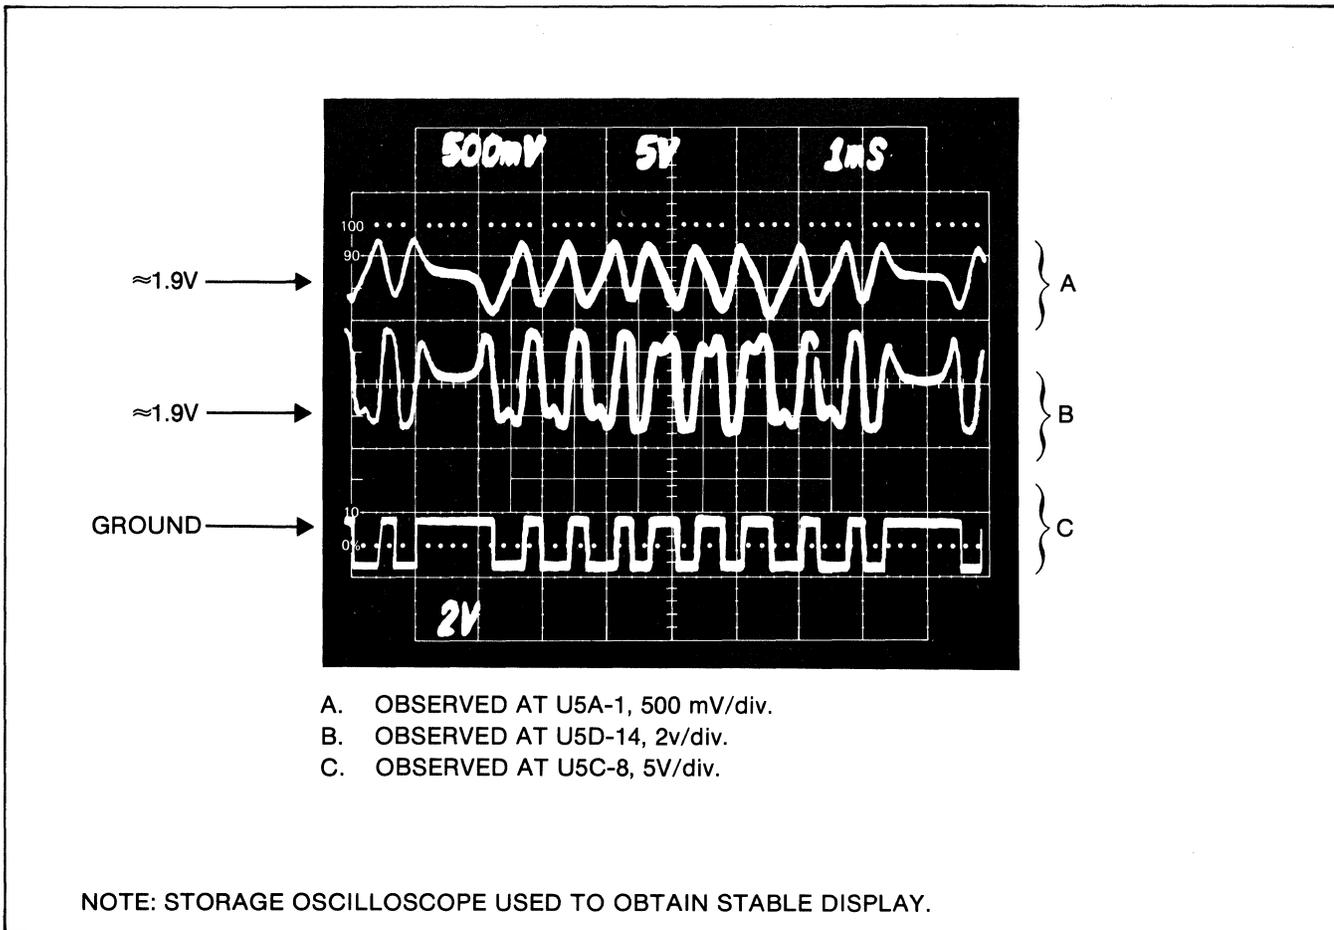

Figure 4-10. Read Test Waveforms
4. Using a tape with data already recorded and a storage type oscilloscope, verify the waveforms at U5A-1, U5D-14, U5C-8 and U5B-7 against those shown in Figure 4-10. Be sure to note the voltage levels. Be sure the Head(+) (A4J2-3) and Head(-) (A4J2-4) wires are connected. If the proper signals are not present, a faulty U5 or an open resistor is indicated. Be sure to check that the signal at U5B-8 is also present at U1-39.